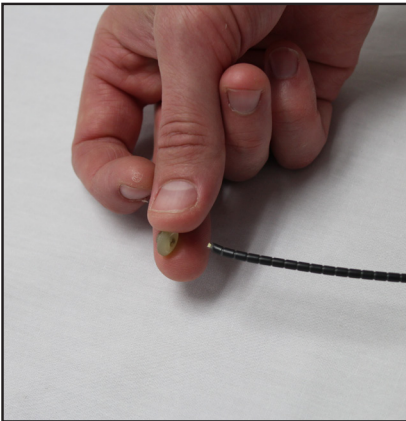

Figure 1. Install Micro Fiber into Cable Seal
- Place cable seal over the micro fiber. (See Figure 1)